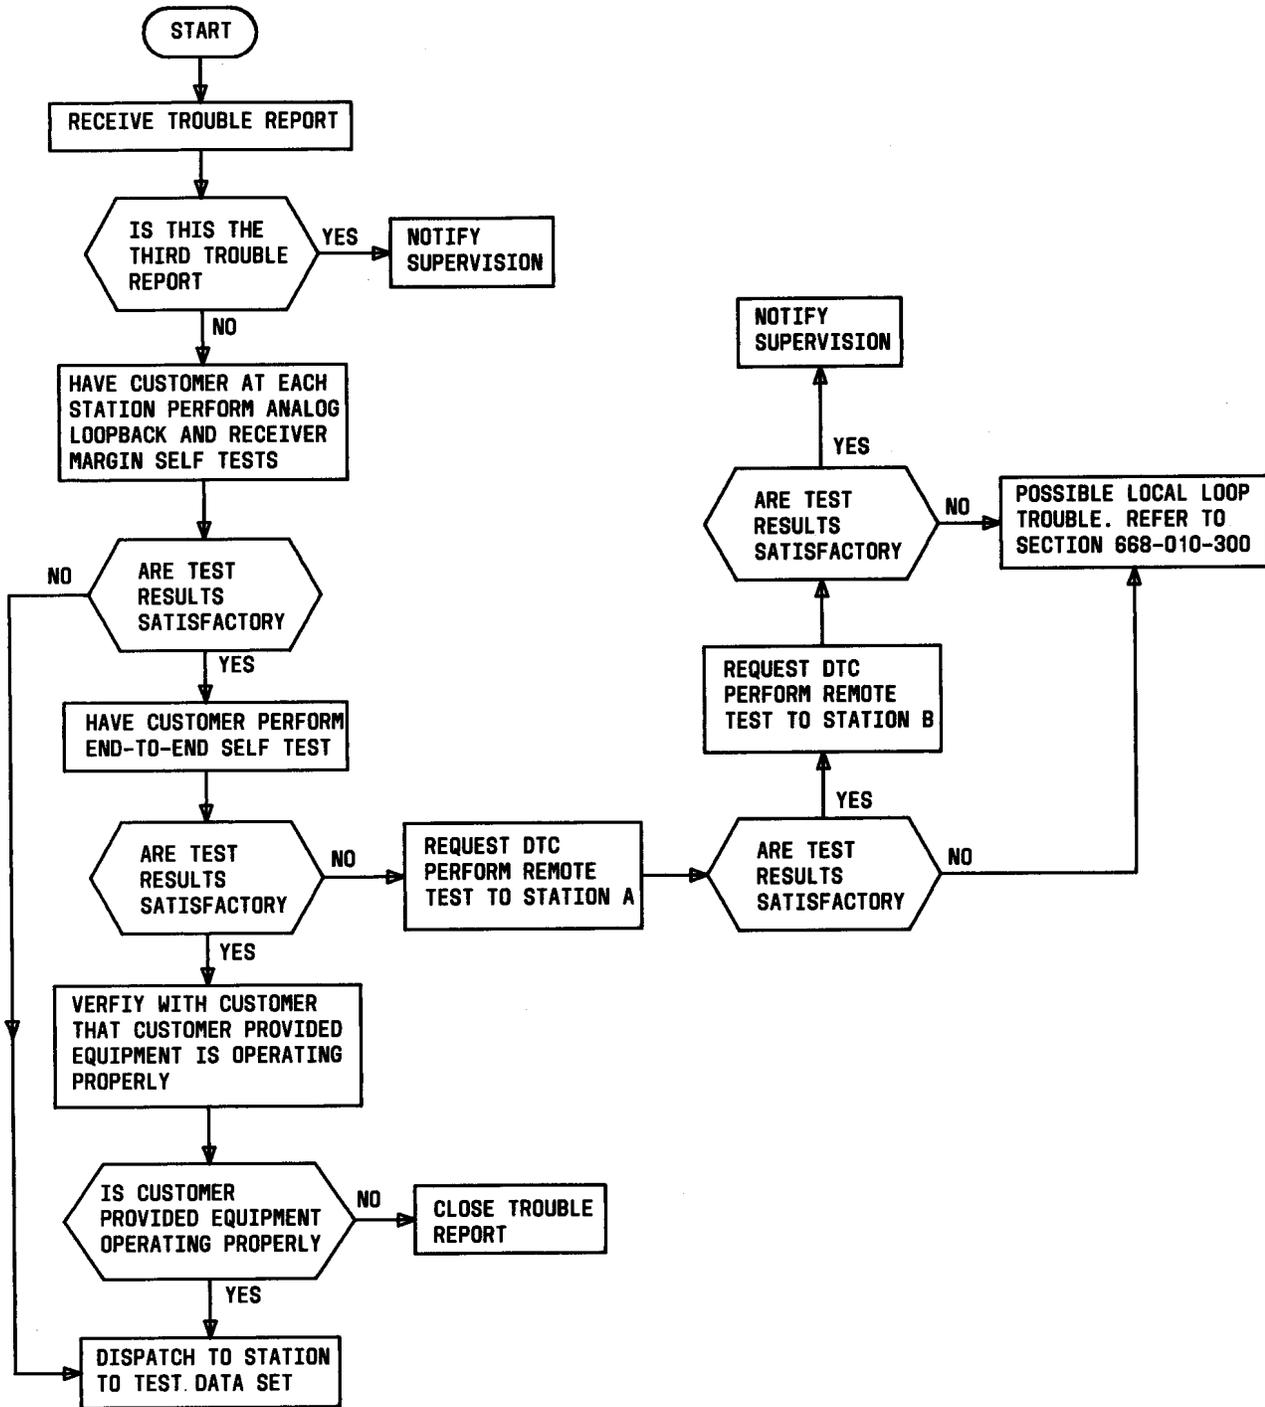

Fig. 3—Clearing Trouble Report
3.02 When a trouble report is received, a test center is responsible for isolating the trouble to the data station or the transmission facility. The procedure for doing this is shown in Fig. 3.